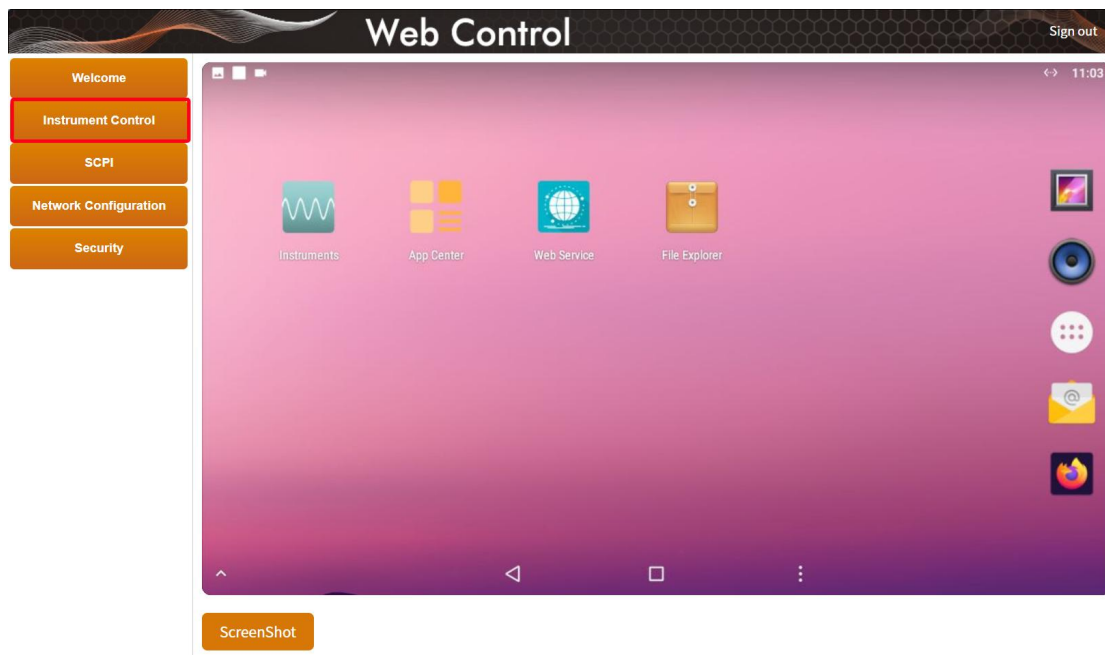
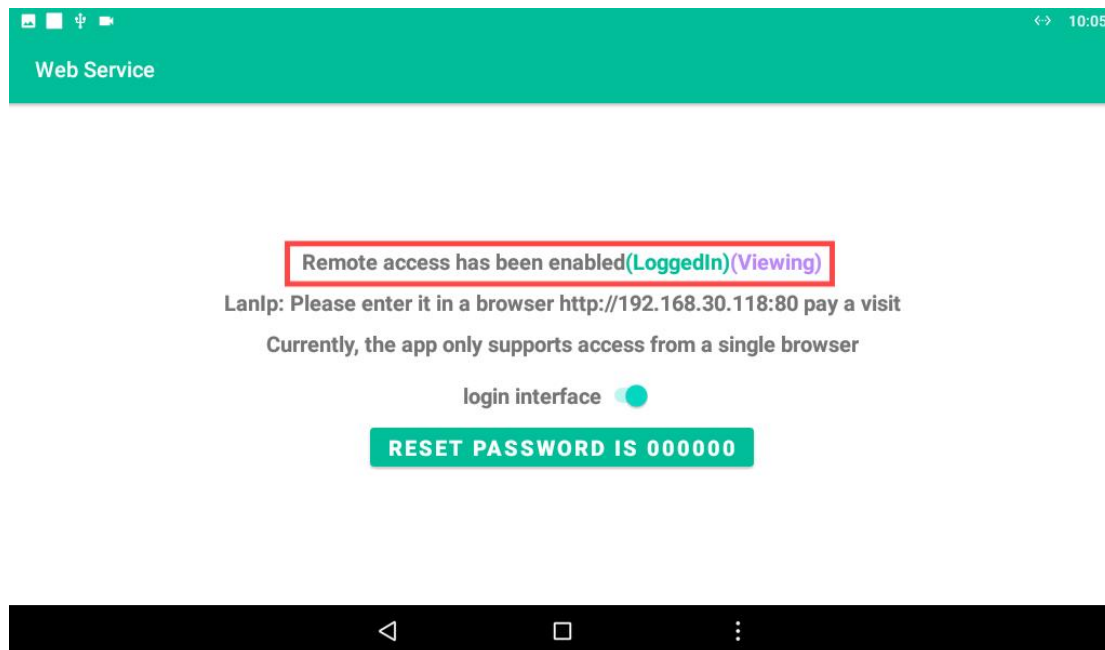

Figure 2-6
Figure 2-7
5. Click the **"Instrument Control"** button on the left to jump to the instrument control interface, as shown in Figure 2-6; the corresponding web service interface will be displayed **"(LoggedIn)(Viewing)"**, as shown in Figure 2-7.